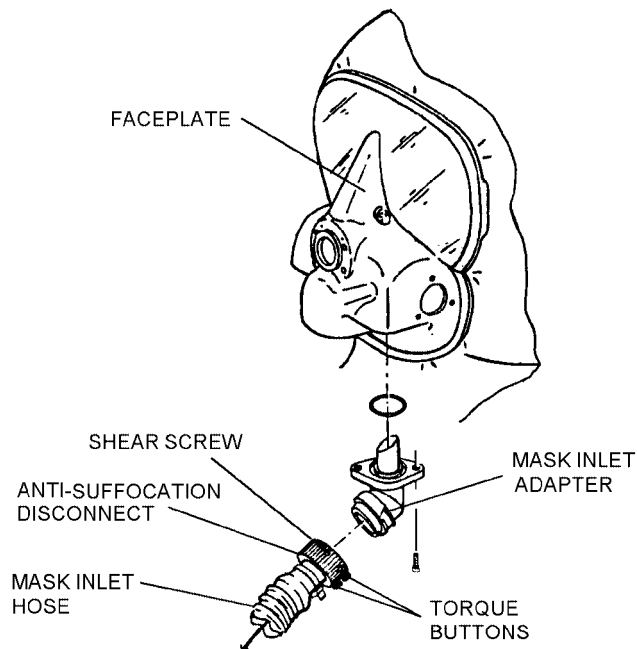

Figure 3-10. Anti-Suffocation Disconnect/Mask Inlet Adapter
3-21. Anti-Suffocation Disconnect/Mask Inlet Adapter. The anti-suffocation disconnect, located at the upper end of the mask inlet hose, is manually unlocked from the mask inlet adapter on the faceplate by an inward clockwise rotation of a knurled locking ring toward the mask, which breaks a shear screw (figure 3-10). Two (2) torque buttons aid in the application of pressure to break the shear screw for quick disconnect in emergency situations. The mask inlet hose may then be separated from the mask inlet adapter by pulling firmly down on the hose.